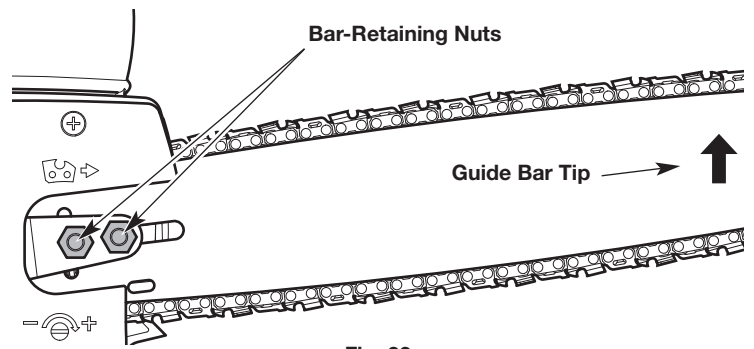

Fig. 23
1. Use a 7/16 inch (11 mm) wrench to slightly loosen the bar-retaining nuts (Fig. 23). **DO NOT** remove the bar-retaining nuts.